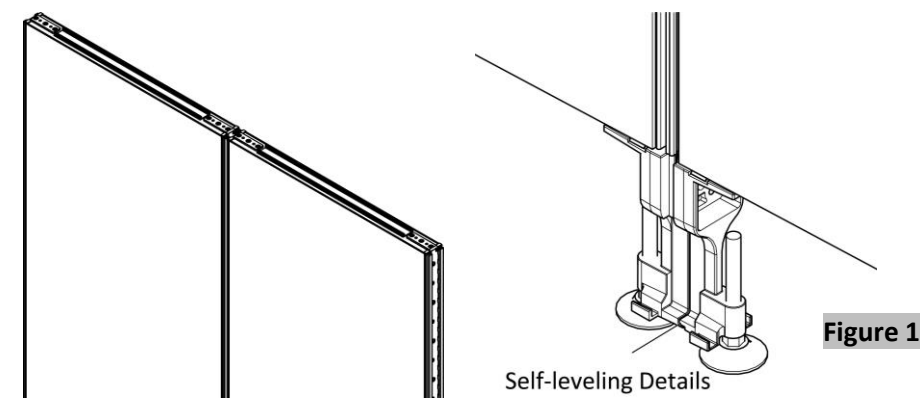

Figure 1
1. Engage the two-panel legs with the self-leveling details and level them accordingly, (Figure 1).